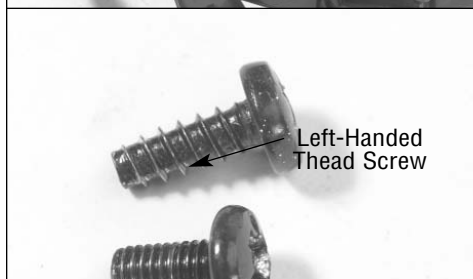

FIG 86
23. Using a Lint-free Swab (LFSWAB) clean the two areas shown where conductive lubricant has been applied (FIG 86), and then apply a thin layer of Conductive Cartridge Lubricant (CONCLUBE). Use the wooden end of a swab as an applicator.